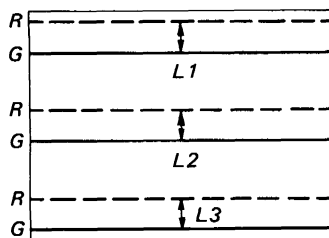

Fig. 3-29
- (6) Adjust RV5525 (V LIN (R)) so that "L1", "L2" and "L3" are equal in the middle screen as shown in Fig. 3-29.